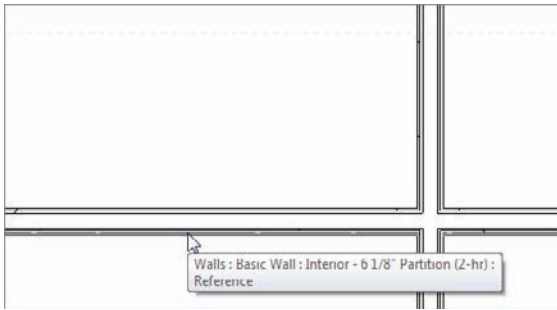

FIGURE 2.41 Adding yet another reference plane to the model. You'll delete this one.
4. From the finish inside face of the top, horizontal corridor wall, offset the reference plane up (see Figure 2.41).